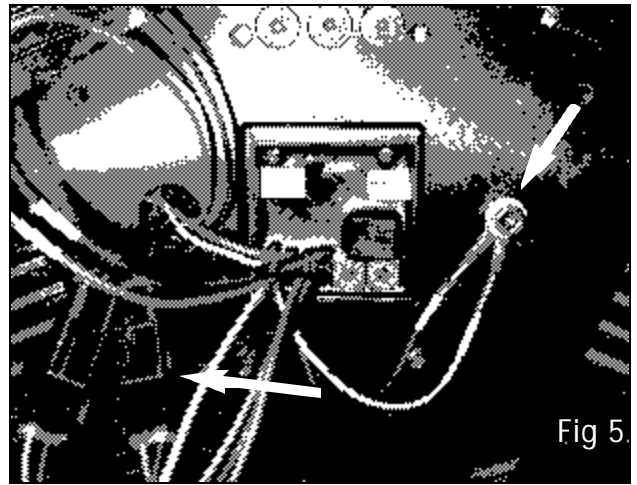

Fig 5
1. Install your new Adjustable Control Module onto the backing plate in the same location as the Control Module that you just removed. Install the module so that the adjustment controls are located on the bottom of the module (*Fig. 5*).
2. Connect the black ground wire off of the adjustable module, labeled "GND" to the backing plate using the bolt that you previously removed (*Fig. 5*).
3. If using a Single Fire Ignition, leave the gray wire labeled "SF/DF" loose and tape or cut and apply a butt connector to the end of the wire so that it cannot contact anything. If using a Dual Fire Ignition, connect the gray wire labeled "SF/DF" to the same bolt as the black ground wire off the adjustable module (*Fig. 5*).
5. Connect the two black male solenoid clip terminals to their corresponding female clip terminals routed through the wire port of the backing plate (*Fig. 5*). Be sure that you connect the "FUEL" terminal to the fuel solenoid wire terminal and the "NOS" terminal to the nitrous solenoid wire terminal.